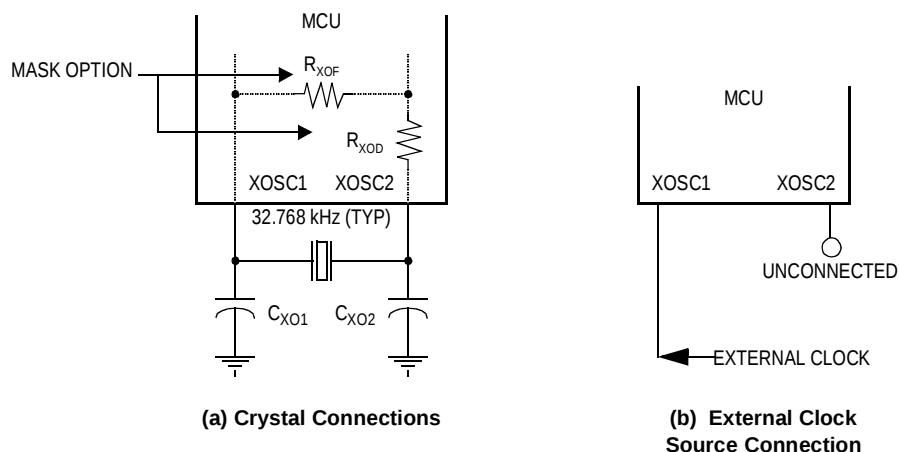

Figure 1-5. Oscillator Connections
1. A crystal as shown in **Figure 1-5(a)**
2. An external clock signal as shown in **Figure 1-5(b)**
The circuit in **Figure 1-5(a)** shows a typical 2-pin oscillator circuit for a 32.768-kHz “watch” crystal. The crystal manufacturer’s recommendations should be followed, since the crystal parameters determine the external component values required to provide maximum stability and reliable startup. The load capacitance values used in the oscillator circuit design should include all stray capacitances. The crystal and components should be mounted as close as possible to the pins for start-up stabilization and to minimize output distortion. An internal startup feedback resistor of R_{XOF} between XOSC1 and XOSC2 and a
As shown in Figure 1-5\(b\), an external clock from another CMOS-compatible device can be connected to the XOSC1 input (with the XOSC2 output not connected). This configuration is possible regardless of the oscillator setup.